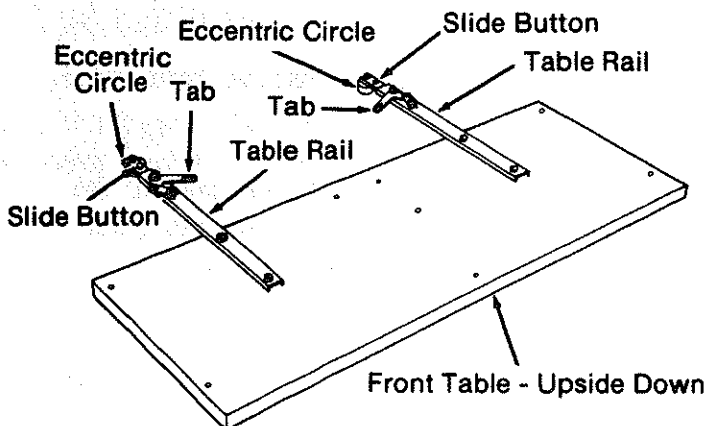

Fig. 76
7. Place the two *table rails* on the *front table* as shown. The *tabs* should point toward each other when both *rails* are in place, and the *eccentric circles* should be toward the floor. (Figure 76)
9. Fasten the *table rails* to the *front table* using four pan head screws and flat washers. Tighten with a Phillips screwdriver. (Figures 76 & 77)